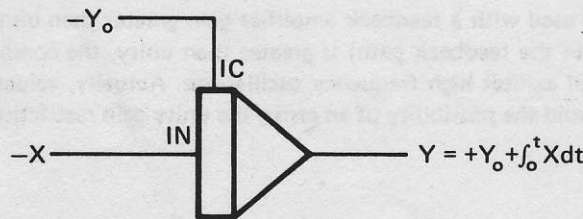

Figure 4.6 Integrator: Typical Programming Symbol
As shown in Figure 4.6.
1. The Integrator inverts; this applies to both the IN and the IC analog input paths. See Figure 4.6.